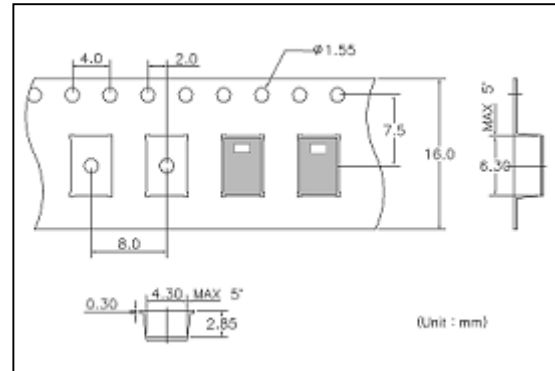

Figure 4 Packing Reel & Tape
**HCP2D-3V** is provided in a tape & reel shipment packaging, sealed into antistatic ESD trays. Standard packaging sizes are 2,500 or 500 units per reel. The drawing of the packaging tapes with sensor orientation and packing box dimensions are shown in Figure 4 and Figure 5.